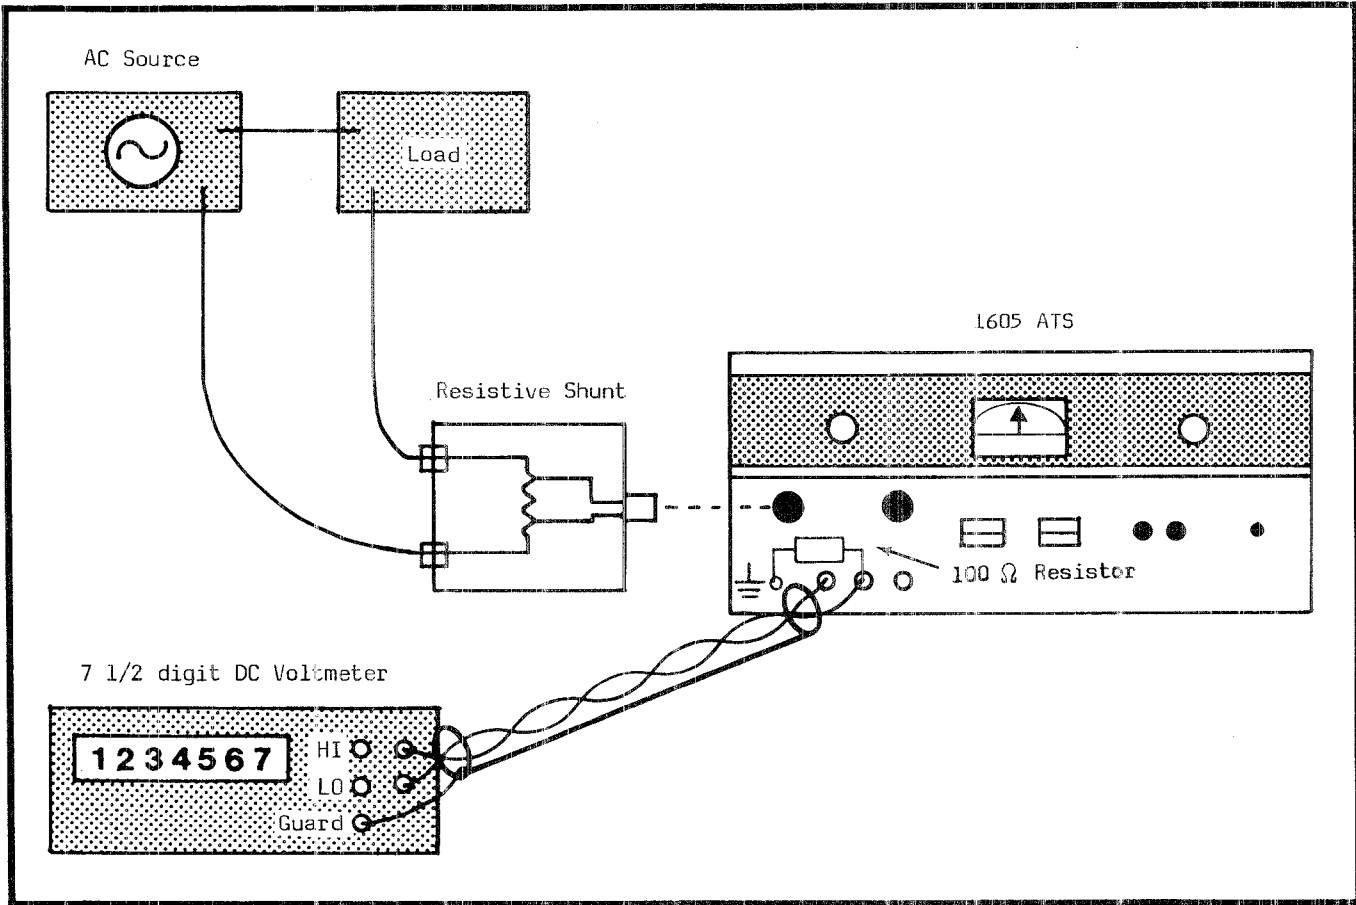

Figure 3-9. Measuring Current Using a Resistive Shunt
a. Connect the test set-up of Figure 3-9. Be certain that the passive shunt has NBS traceable certification of ac/dc difference.